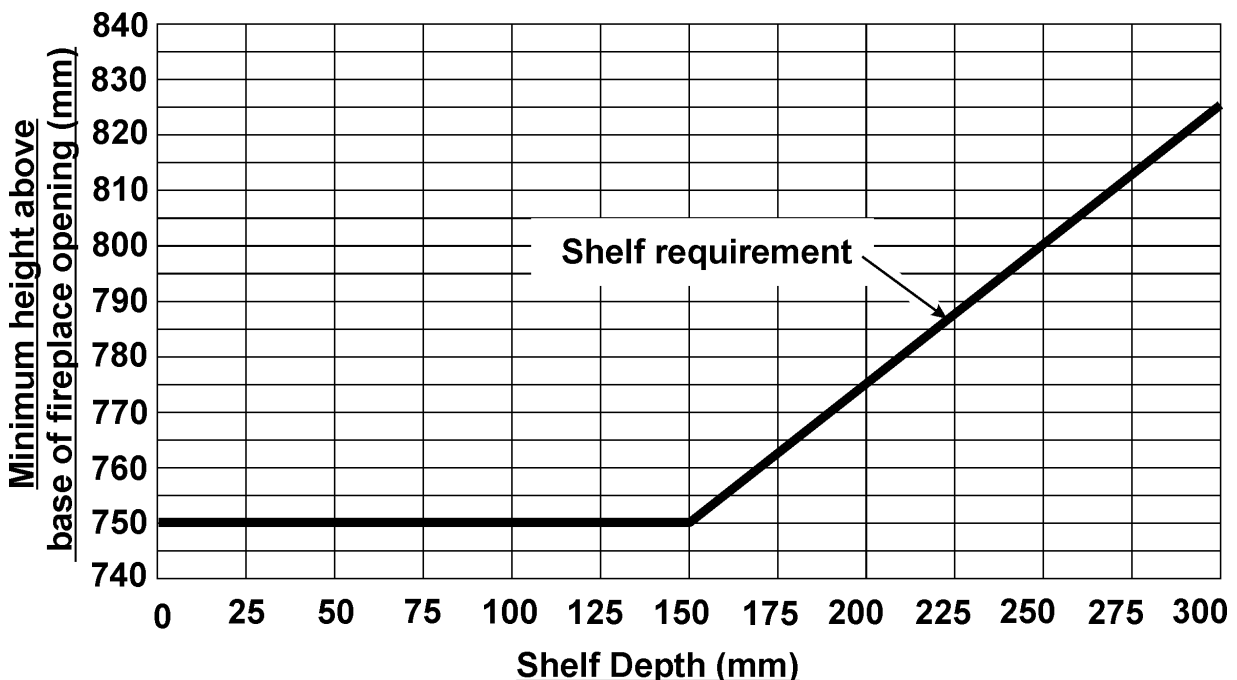

Figure 1. Combustible shelf clearances
**Do** provide a minimum clearance of 750mm from the base of the fireplace opening to any shelf made of wood or other combustible material where the shelf is not more than 150mm deep. For a shelf deeper than 150mm, add 12.5mm to the clearance for every 25mm of additional shelf depth (See figure 1).
**Do** provide a minimum side clearance as detailed in figure 1. Please bear this in mind if ever you are altering the room.